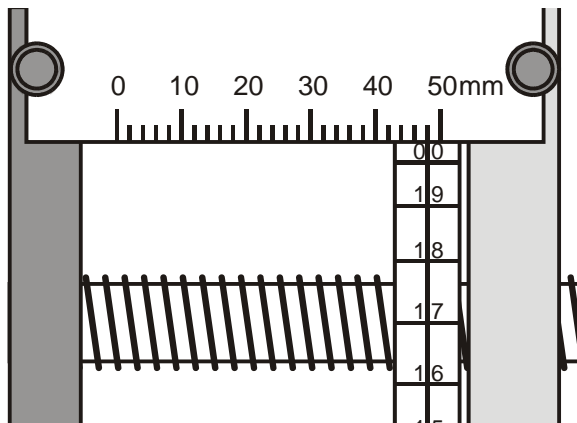

Fig. 2: Piston position reading at 48.0 mm
- Loosen the knurled screws of the fixed scale and shift the scale to the side till the 48-mm bar is exactly above the centre line of the vernier scale (see Fig. 2).